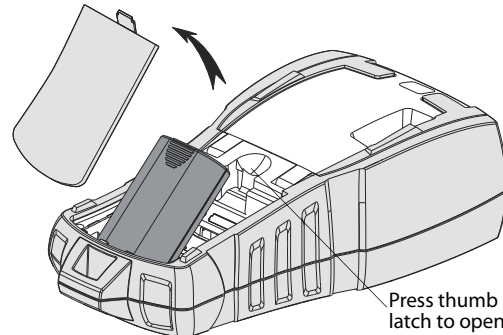

Figure 3
1. Press the thumb latch on the back of the printer to remove the battery compartment cover. See Figure 3.
2. Insert the battery pack into the battery compartment. See Figure 3.